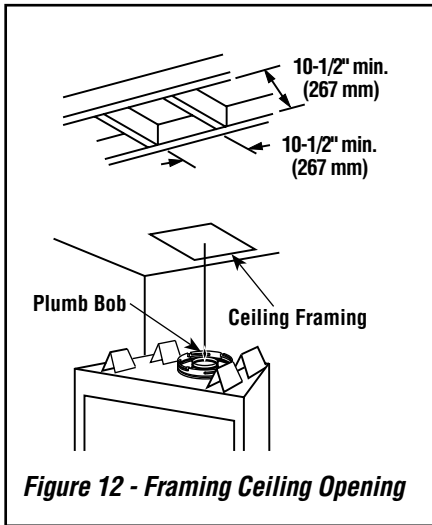

Figure 12 - Framing Ceiling Opening
A. Frame ceiling opening - Use a plumb line from the ceiling above the appliance to locate center of the vertical run. Cut and/or frame an opening, 10-1/2" x 10-1/2" (267 mm x 267 mm) inside dimensions, about this center mark (Figure 12).
C. Frame ceiling opening - If the vertical route is to penetrate a ceiling, use a plumb line to locate the center above the appliance. Cut and/or frame an opening, 10-1/2" x 10-1/2" (267 mm x 267 mm) inside dimensions, about this center (see **Figure 12 on Page 16**).